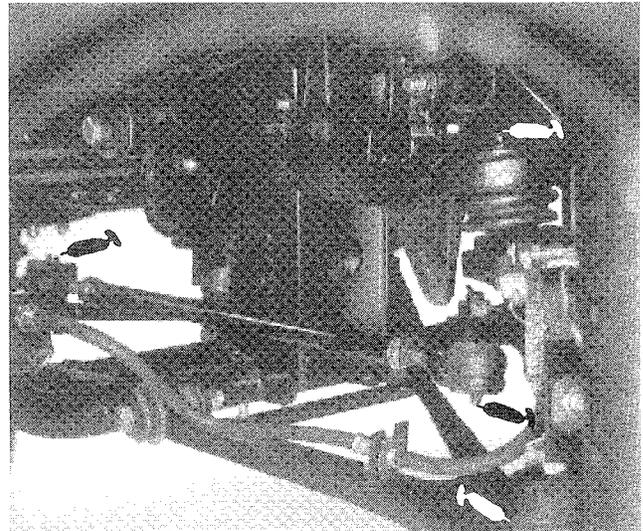

Figure 24
(Fig. 24–28)
The grease fitting locations and quantities are: Tie rod ends (4) (Fig. 24), Front ball joints (4) (Fig. 24), Rear drive shafts (6) (Fig. 25), Steering shaft (1) (Fig. 26), Front pivot bushings (2) (Fig. 27) and Governor Lever (1) (Fig. 28).